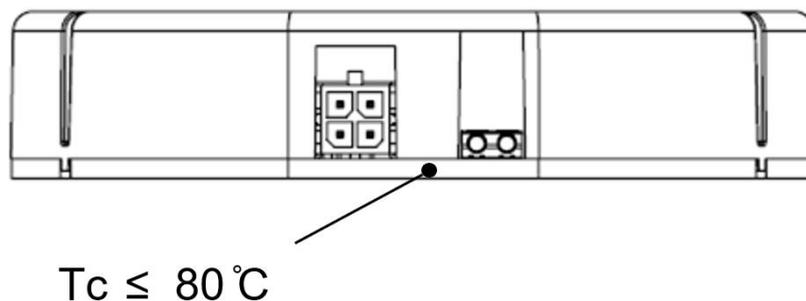

Figure 8. Thermal check point
VEGA 07 generates a maximum of 45 thermal power (W). The maximum temperature in the check point is indicated in Figure 8 and should not be higher than 80 °C